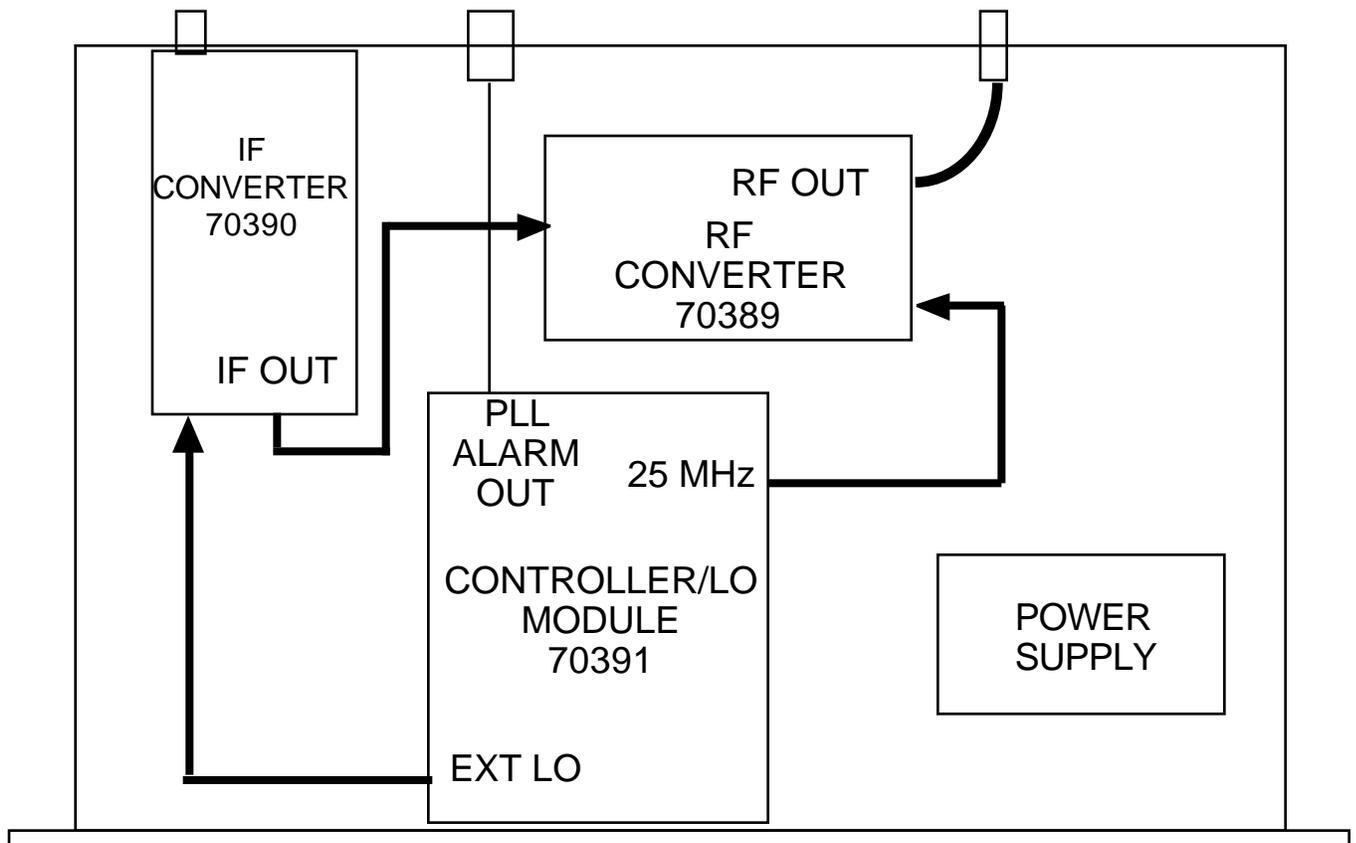

FIGURE 2.0 2088-24 Mechanical Assembly
2.1 Mechanical - The 2088-24 consists of two RF Assemblies, and one Controller/LO PCB housed in a 1 RU (1 3/4 inch high) by 14 inch deep chassis. A switching, ± 15 VDC power supply provides power for the assemblies. The 2088-24 can be secured to a rack using the 4 holes on the front panel. Figure 2.0 shows how the 2088-24 is assembled.